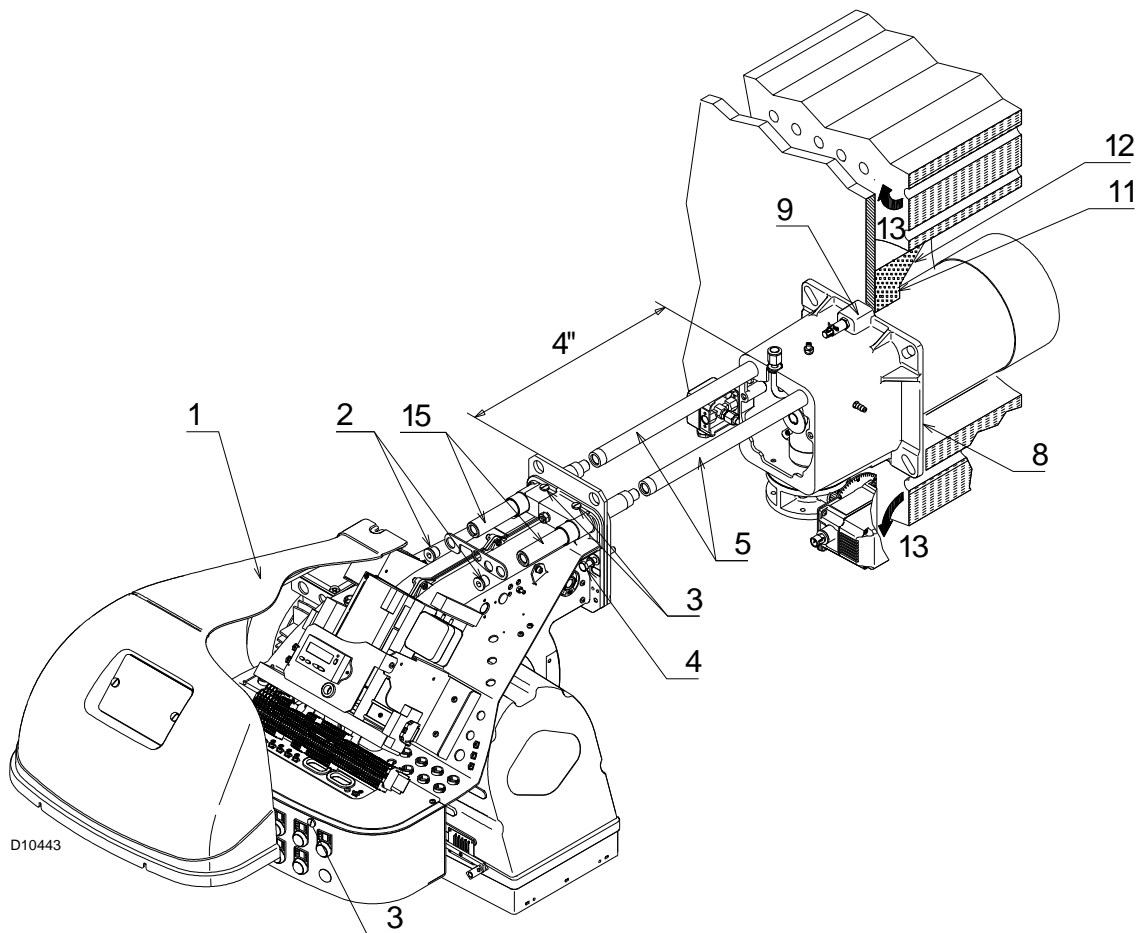

Fig. 11
- For boilers with front flue passes 13)(Fig. 11) or flame inversion chambers, a protection in refractory material 11) must be inserted between the boiler refractory 12) and the blast tube 10). This protection must not compromise the extraction of the blast tube.
- For boilers with a water-cooled frontal, a refractory lining is not necessary 11)-12)(Fig. 11) unless expressly requested by the boiler manufacturer.
- Secure the burner to the boiler, fixing the flange 9 (Fig. 11) to the boiler plate and interposing the insulating gasket 8).
- loosen the 4 screws 3)(Fig. 11) and remove the cover 1);